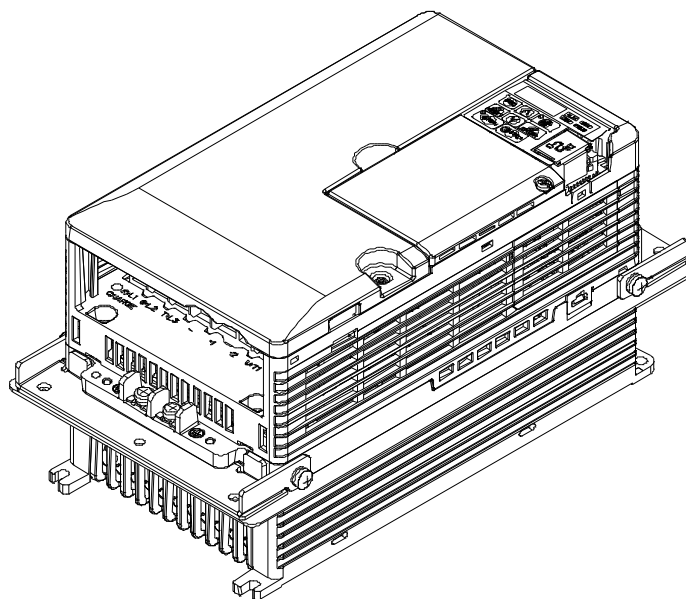

Figure 15: 5.5 to 18.5 kW - Installation completed
5. Reinstall terminal cover, top cover, NEMA 1 cover and placket. Figure 15 shows the completely prepared unit.